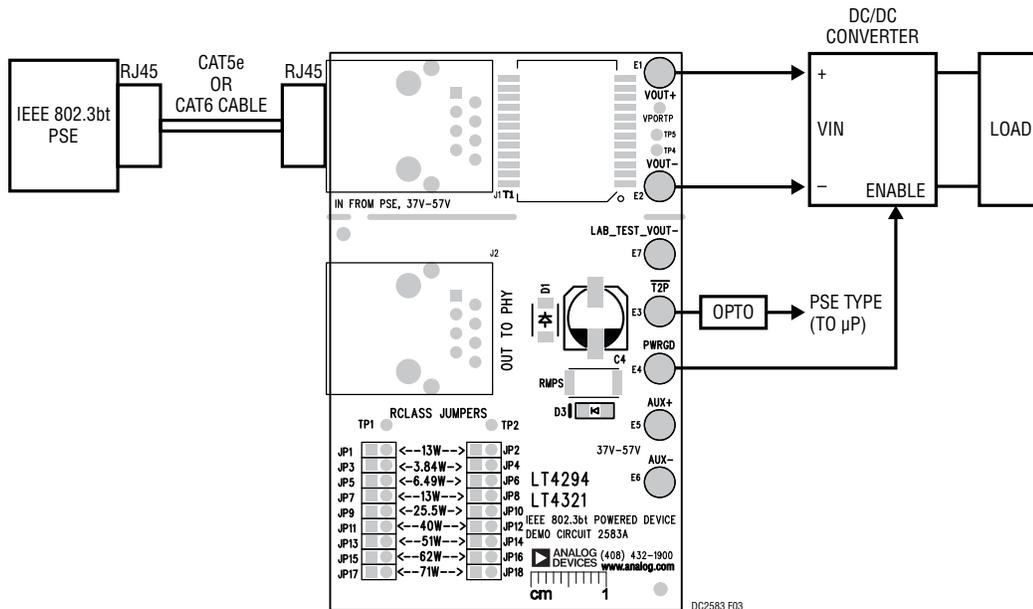
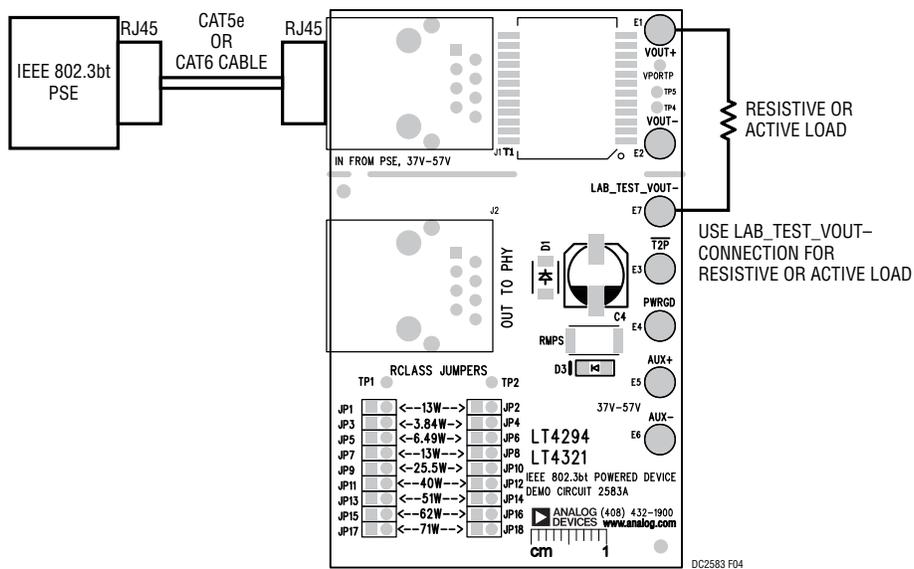

Figure 3. Setup Diagram for DC2583A with a DC/DC Converter, a Microprocessor and an IEEE 802.3bt PSE
Figure 4. Setup Diagram for DC2583A with a Resistive or an Active Load
2. Refer to Figure 3 to evaluate the DC2583A with a DC/DC converter. If a resistive or an active load is used to evaluate the DC2583A, use the setup diagram as shown in Figure 4.